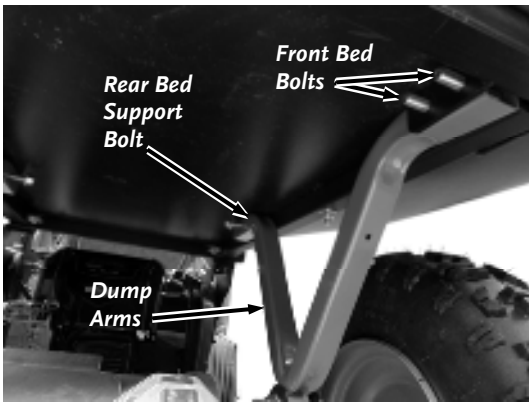

Figure 14
8. Turn the Front Bed Bolts through the Frame and Dump Arms at the front of the Bed with a 1/2" Socket and Ratchet with Extension (**Figure 14**).
10. Secure the rear of the Dump Arms to the Frame with two 5/16-18 X 2-1/2" Flange Bolts and Locknuts using a 1/2" Wrench and Socket (**Figure 14**).